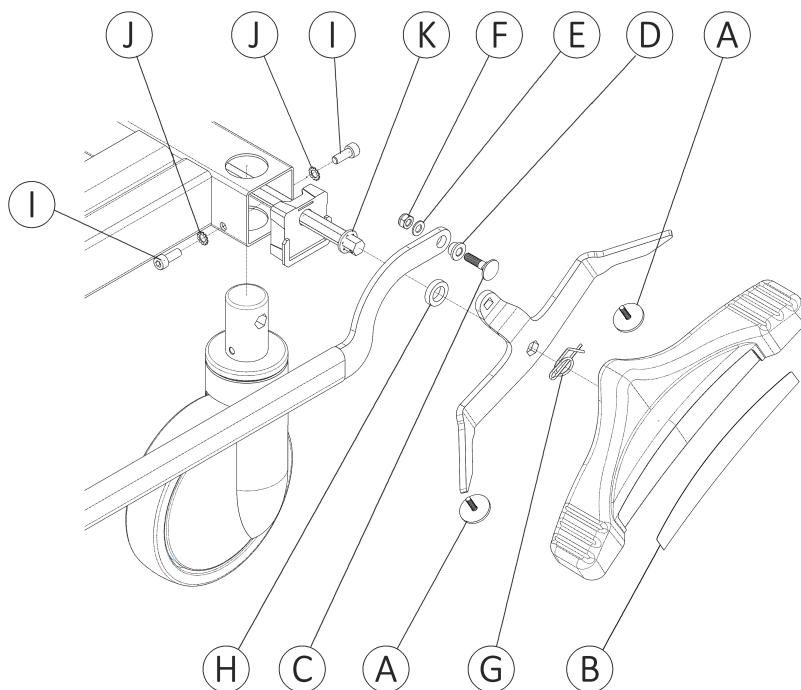

Figure 7 – Non-steer caster
4. Using needle nose pliers, remove and discard the rue ring cotter pin (G) from the hex shaft (Figure 7).
5. Pull the brake pedal off the hex shaft and set aside (Figure 7).
6. Remove and save the plastic washer (H) that is on the hex shaft (Figure 7).
7. Using a hammer and a large screw driver, remove and discard the starlock retainer (K) that is on the hex shaft (Figure 7).
8. Using a 5 mm hex wrench, remove and discard the two screws (I) and washers (J) that secure the non-steer caster to the base frame (Figure 7).